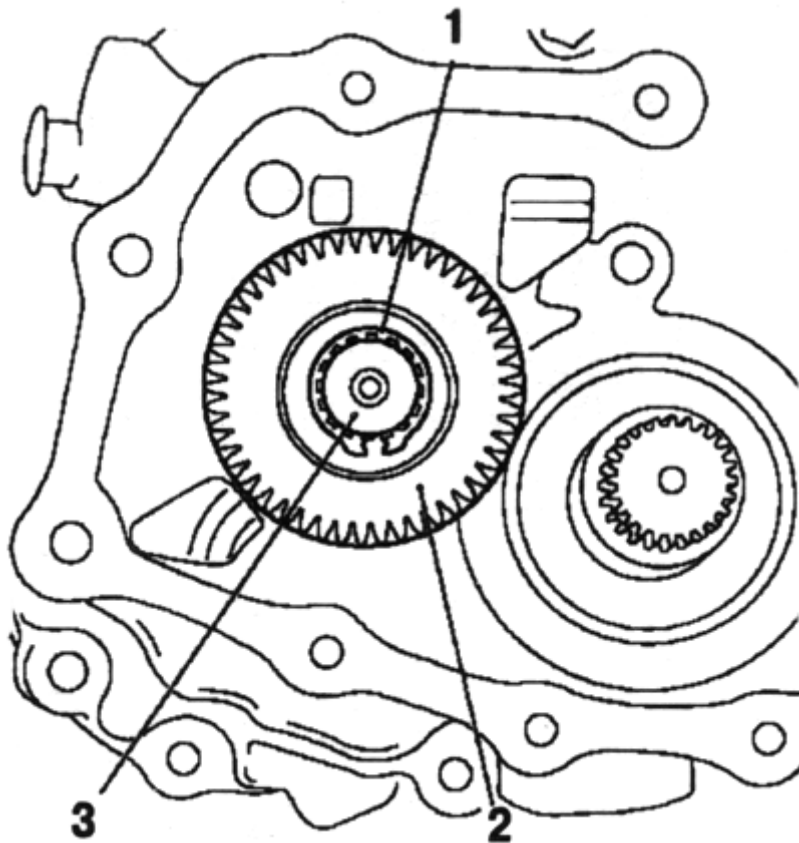

Fig. 3.59. Withdrawal dentate wheels with in-water Shaft:
Remove gear fifth gear (lead) (2) of the shaft and remove the holder (Figure 3.59).